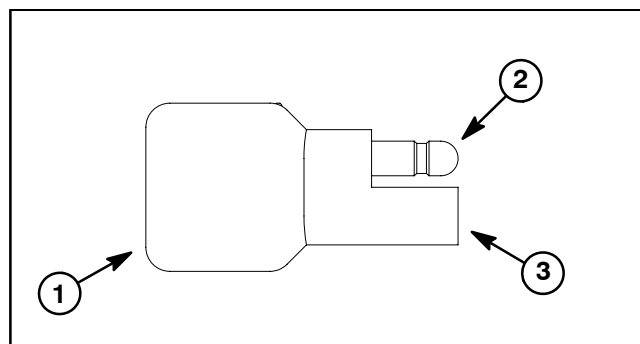

Figure 8
Two (2) diode assemblies (Fig. 8) are used in the machine wire harness. Diode D1 is used for circuit protection from inductive voltage spikes that occur when the starter motor is shut off. Diode D2 provides logic for the interlock switches to allow the engine to run when the traction pedal is in neutral and the PTO switch is off. The diodes plug directly into the wiring harness.